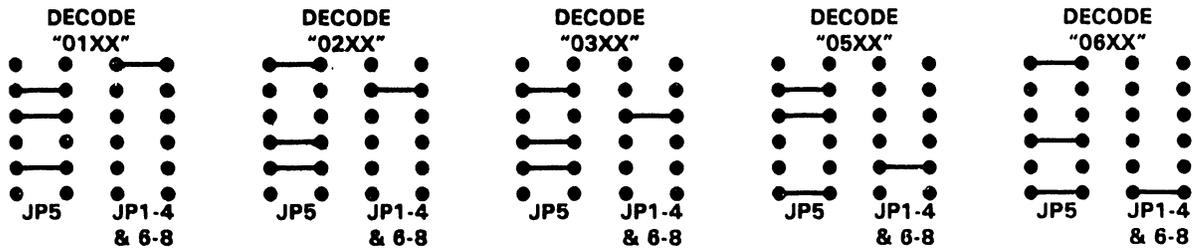

Figure 5-10. 210-8616 Intelligent Serial I/O Adapter Connector and Jumper Locations
3. Check the jumpers (figure 5-10) on the device adapter and install the new adapter in Motherboard slot #4 as described in 5.3.4.4.1.